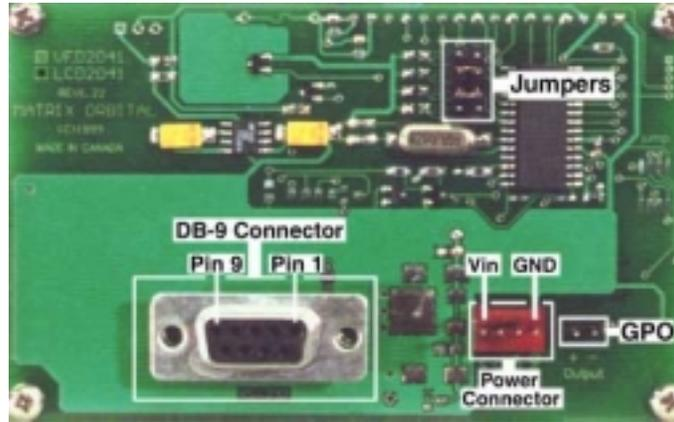

Figure 2-1 Electrical Connections
1. Refer to the diagram above and Figure 2-1 for the following steps.
Power is applied via pins 1 and 4 as shown in Figure 2-1. Power requirement for standard units is +5 VDC \pm 0.25V (units with the wide voltage range option require 8 – 15 VDC). Power may also be supplied via the RS-232 connector as described in section 2.2.2.